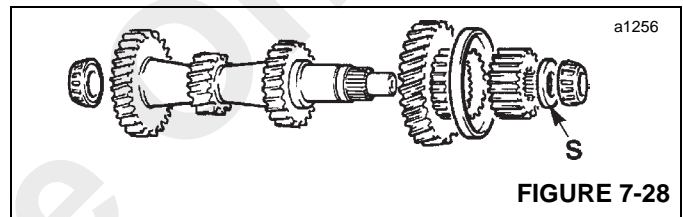

FIGURE 7-28
8. Coat bearing surfaces of mainshaft with grease and assemble 3rd gear and synchro-hub. Install spacer washer S (Figure 7-28) with bevel towards bearings. Press the bearing onto the shaft and coat with grease.